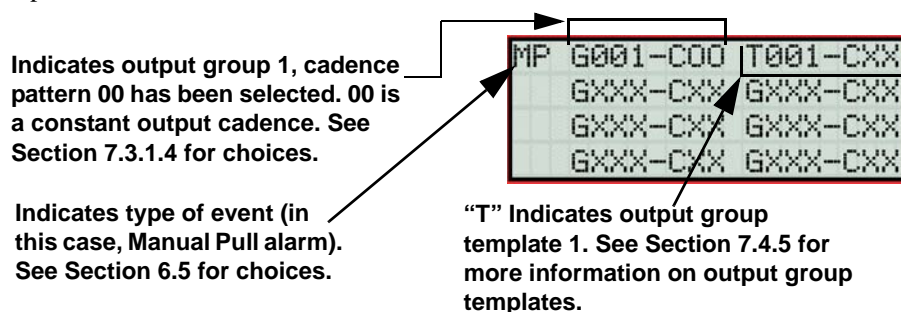

Figure 7-4 Selecting Output Groups/templates and Cadence Patterns for a Zone Event
6. A screen similar to the one shown in Figure 7-4 will display. Select the event type you want to program using the UP or DOWN key and press ENTER.
8. Select options for each event that could occur in this zone. Figure 7-4 is a complete example of how you might map a zone.